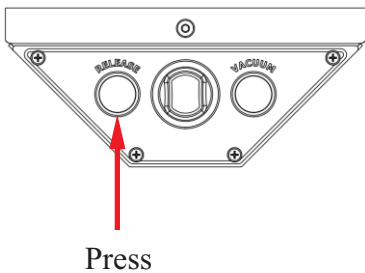

Figure 1.10
**Step 7:** Press “RELEASE” button (hold for about 5 seconds) (Figure 1.10), and move the lifter away from the glass sheet (Figure 1.11).